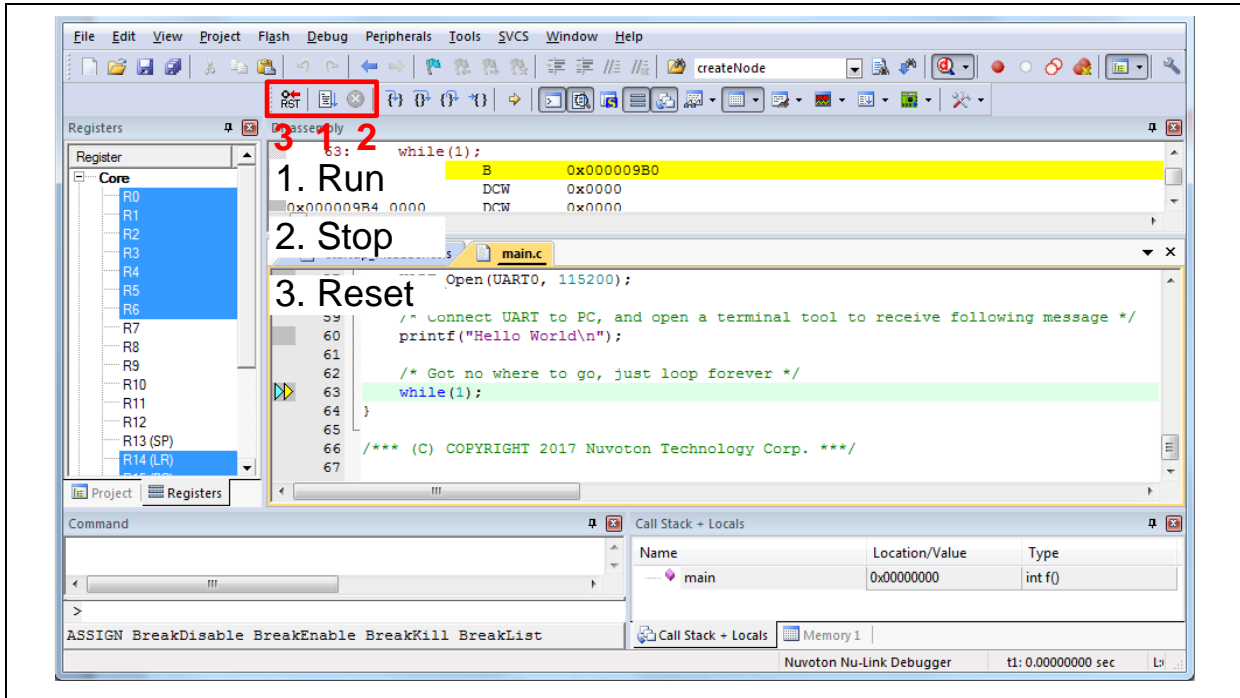
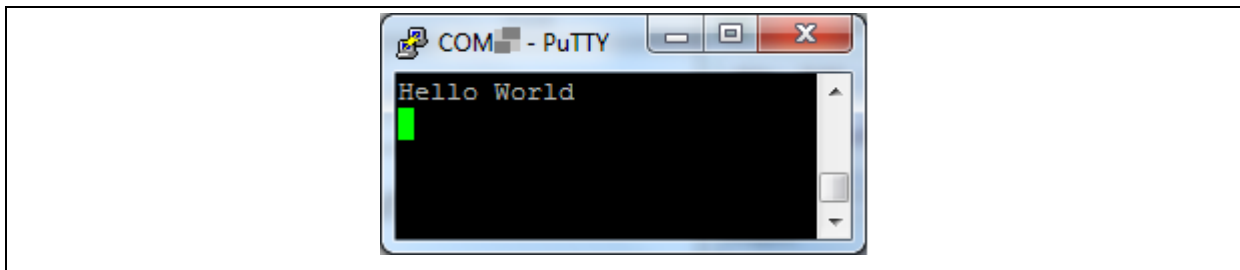

Figure 4-13 Keil MDK Debug Mode
Figure 4-14 Debug Message on Serial Port Terminal Windows
- Figure 4-13 shows the debug mode under Keil MDK. Click “Run” and the debug message will be printed out as shown in Figure 4-14. User can debug the project under debug mode by checking source code, assembly language, peripherals’ registers, and setting breakpoint, step run, value monitor, etc.